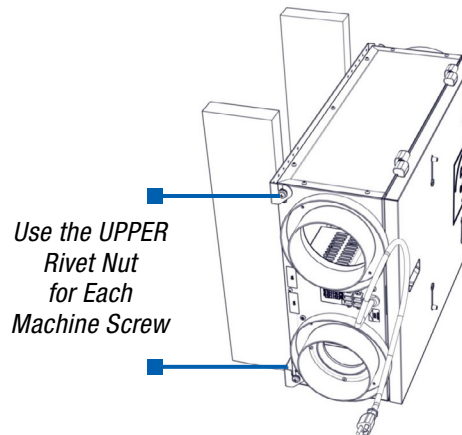

FIGURE 4.5.0 VERTICAL INSTALLATION
- Using four of the factory-supplied 1/4–20 machine screws, place a grommet on each screw and install the screws in the rivet nuts as shown in Figure 4.5.0. Apply a drop of thread-lock on each screw and leave the screws loose, to help in aligning and installing the unit on the two brackets.